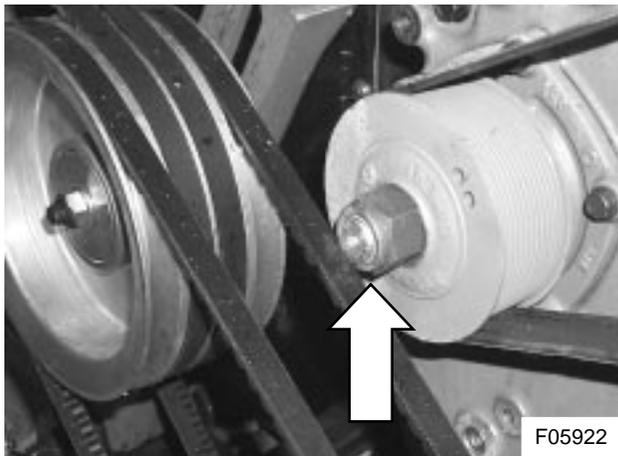

Figure 2: DD2352400 Assembly clearance problems
As a result, the shaft length of the pulley assembly increased by 1/4 inch (6.5 mm). This increase in length caused clearance problems with the cooling fan belt installation (see Figure 2).
To provide proper clearance between accessory drive assembly #23524000 (see Figure 2) and the cooling fan drive belts, shaft #23523973 needs to be shortened by ¼ inch. Proceed as follows:
- 1) Using an air impact wrench, undo and remove the OEM fitted long self-locking nut (see Figure 2) securing the accessory drive pulley to the shaft.